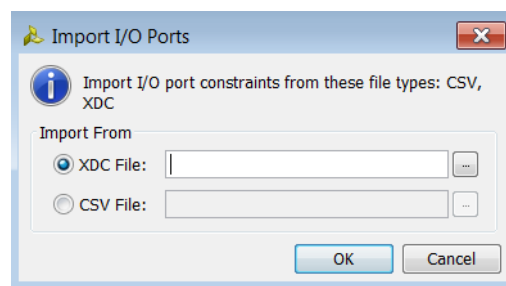

Figure 3-14: Import I/O Ports Dialog Box
2. In the Import I/O Ports dialog box (Figure 3-14), select **CSV File**, and browse to select the file to import.
2. In the Import I/O Ports dialog box (Figure 3-14), select **XDC File**, and browse to select the file to import.